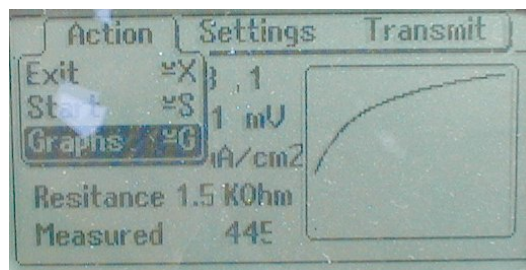

Fig. 27. Selecting the graph option
- b. Select the *Action* menu Fig. 27.